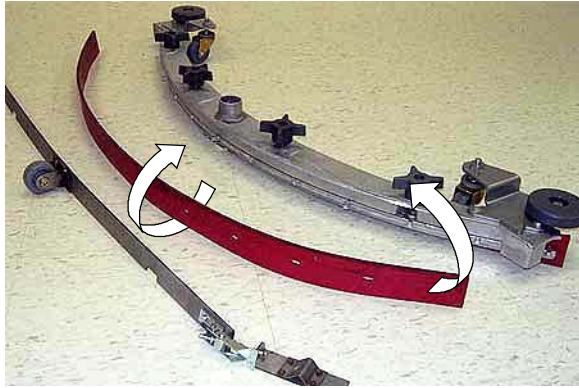

FIG. 79
2. Replace or rotate the rear blade to a new wiping edge and replace band (Figure 79).